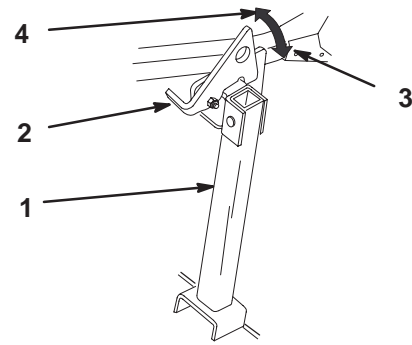

Figure 31
- Raise the latch to the unlocked position (Fig. 31).